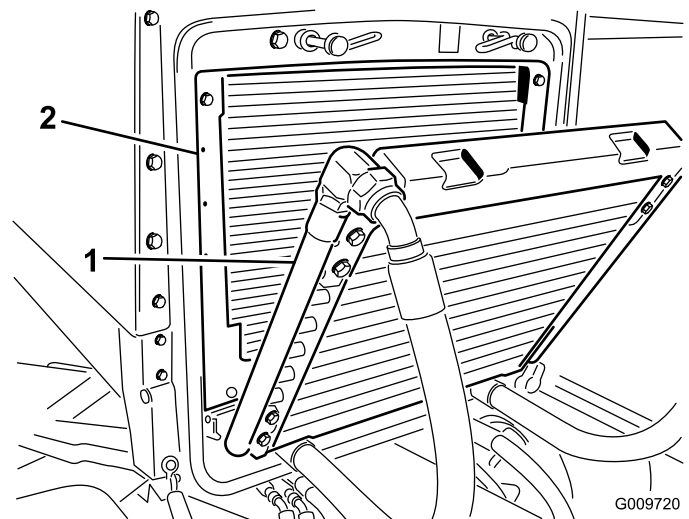

Figure 76
3. Pivot the oil cooler rearward. Clean both sides of the oil cooler and radiator area (Figure 76) thoroughly with compressed air. Start from the front and blow the debris out towards the back. Then clean from the back side and blow towards the front. Repeat procedure several times until all chaff and debris is removed.